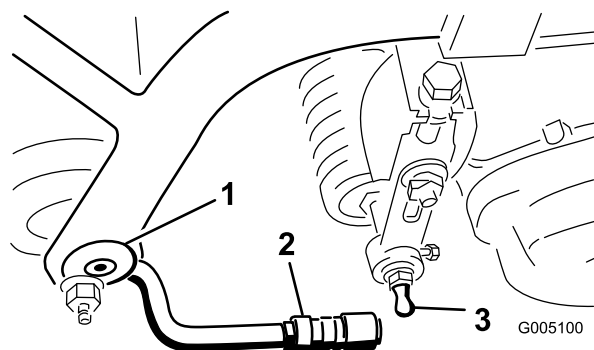

Figure 11
2. Mount a ball stud to each end of the front roller on the cutting units (Figure 11).